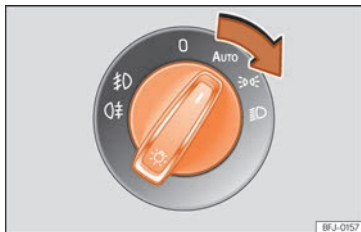

Fig. 112 Dash panel: lights control.
- Turn the switch to the required position » **Fig. 112**.